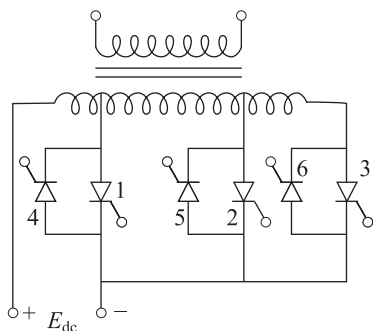

Fig. P.9.12
- 9.12 In Fig. P.9.12, the function tap switching firing sequence of SCRs to obtain positive half-cycle is
- 9.13 In Fig. P.9.12 the switching frequency of firing the six SCRs should be
- 9.14 In Fig. P.9.12, the number of SCRs conducting at a time in one cycle is